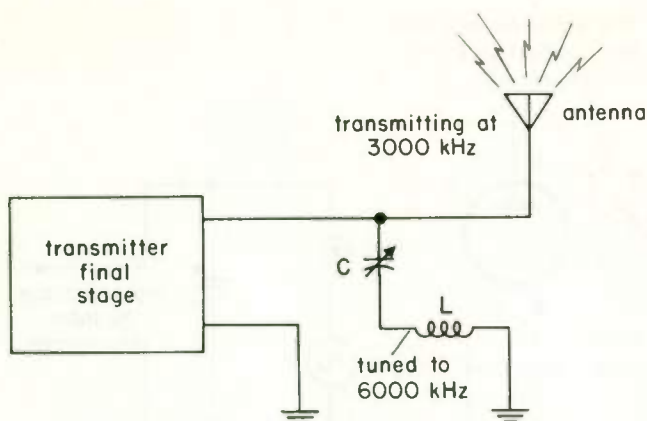

Fig. 9 Use of a series LC circuit to filter out the second harmonic.
of an unwanted frequency. Figure 9 shows an example of a series LC circuit so used. Transmitters often have sufficient distortion that the harmonics generated would cause interference if allowed to reach the antenna.
The transmitter in Fig. 9 is transmitting at 3000 kHz. But because of distortion, the final stage will also produce some output at the second harmonic, which is 6000 kHz. Capacitor C is tuned to resonate the LC circuit at 6000 kHz. Because of the very low impedance of LC at this frequency, the second-harmonic output from the final stage shorts to ground through LC and so does not reach the antenna. Since the impedance of LC is high at 3000 kHz, the LC circuit has negligible effect on the desired frequency of transmission.
3. Refer to Fig. 9. The transmitter is transmitting at 1250 kHz and you want to short to ground any second harmonics. You have a variable
5. Refer to Fig. 9. A series LC circuit can be used to short to ground an undesired frequency because, when tuned to the undesired frequency, the series LC circuit has very (a) *low* (*high*) impedance to that frequency and a (b) *low* (*high*) impedance to frequencies above and below that frequency.